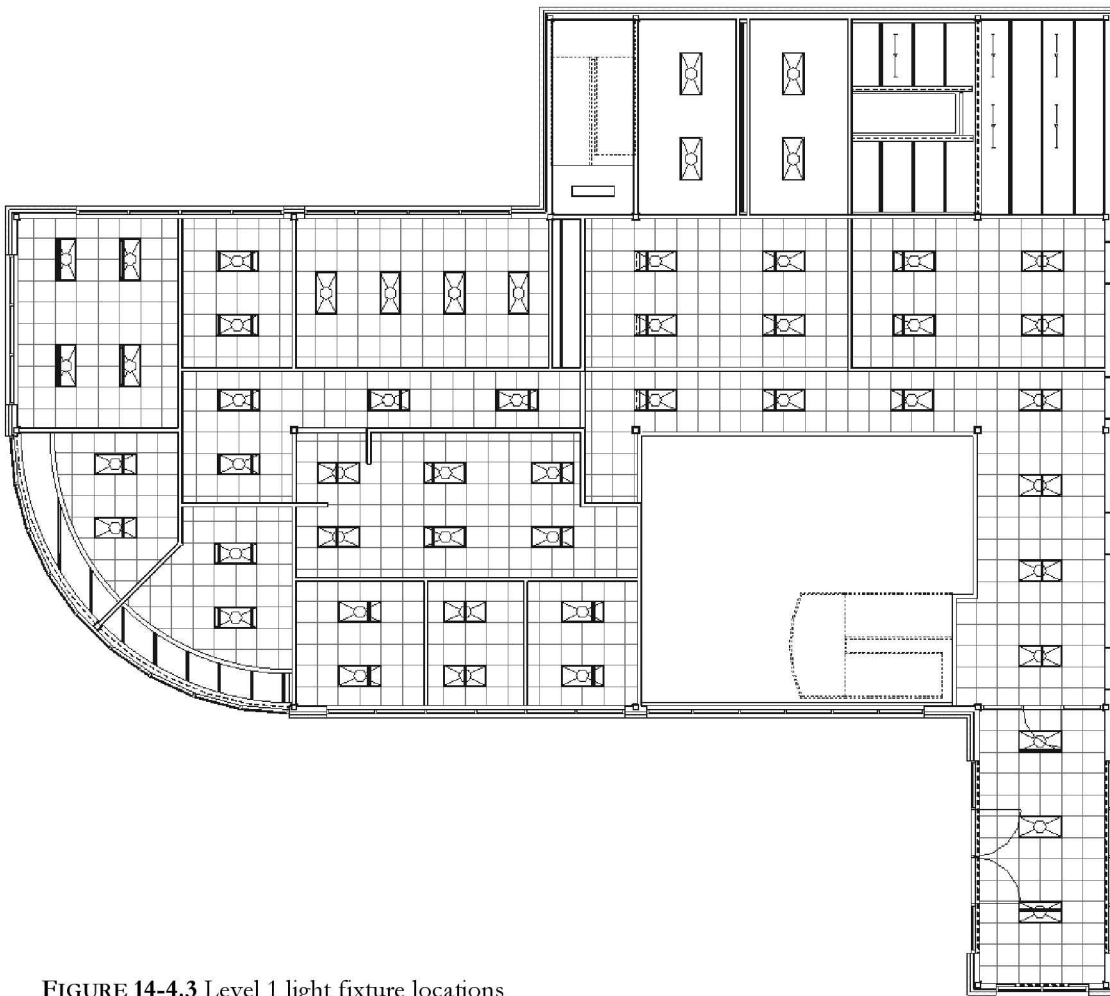

FIGURE 14-4.3 Level 1 light fixture locations
15. Place the remaining 2x4 light fixtures on Level 1 as shown in Figure 14-4.3.